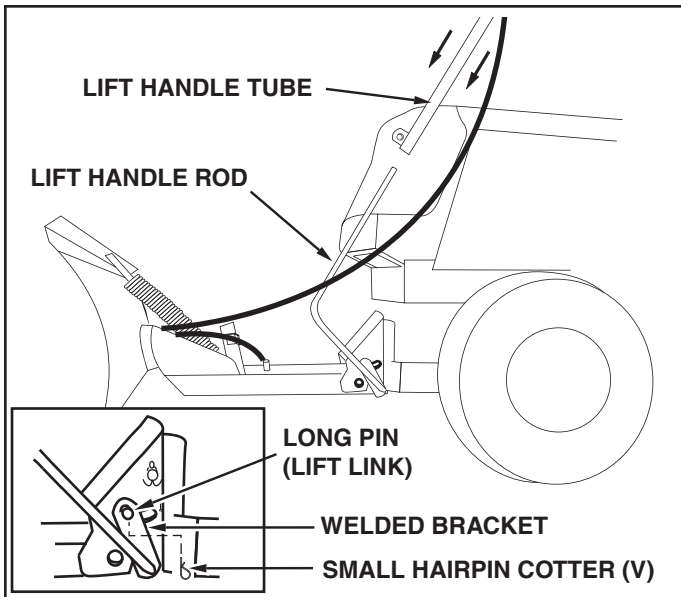

FIGURE 21 (Left Hand Side View)
STEP 21: (SEE FIGURE 21)
- From the left side, insert the welded end of the lift handle rod through the exposed holes in the end of the channel assembly. Next, insert the lift link pin through the hole in the bracket that is welded to the lift handle rod. (The lift link is pre-assembled to the pivot support bracket). Secure the bracket with a small hairpin cotter (V) inserted up through the lift link pin all the way to the loop end of the hair pin cotter.